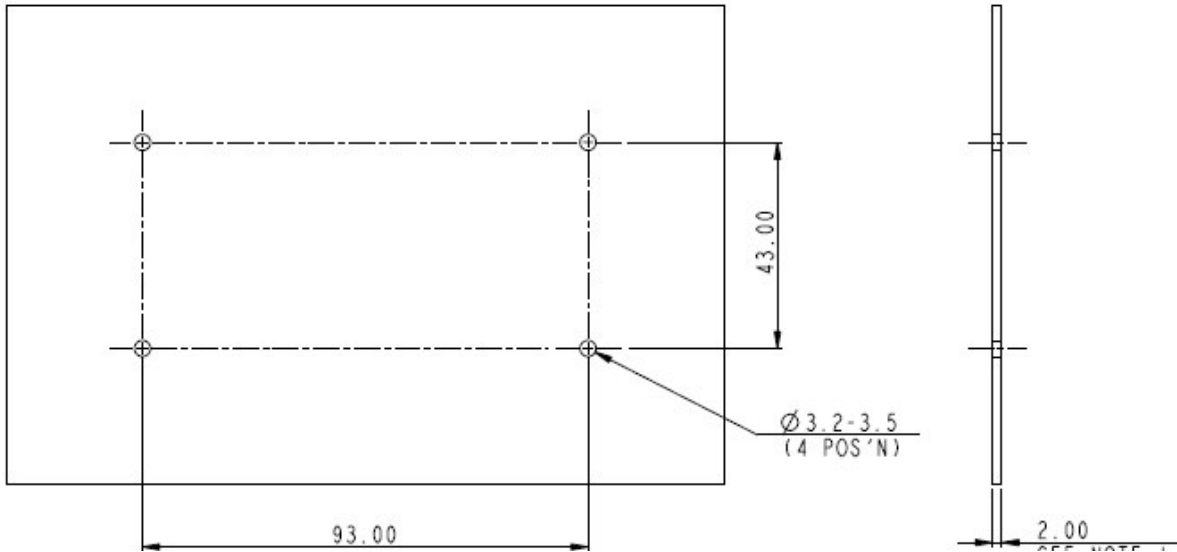

Figure 8: Mechanical mounting foot print for use when panel mounting 9601.
4. See Figure 8 for mounting hole dimensions